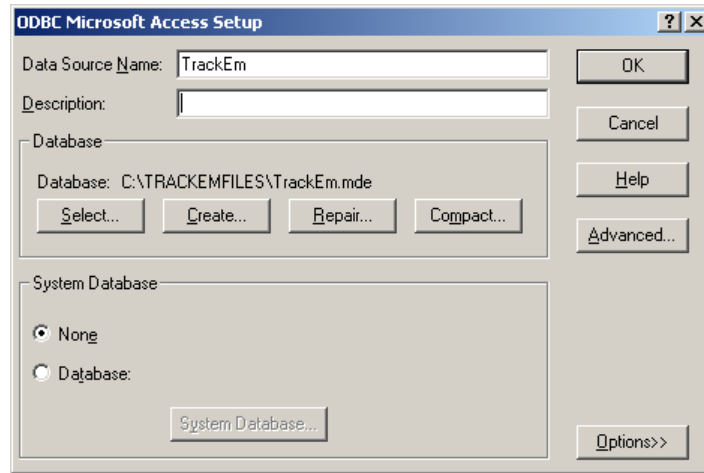

Figure 76
Step 7 – Enter “TrackEm” for the Data Source Name (DSN) in Figure 76 and click SELECT